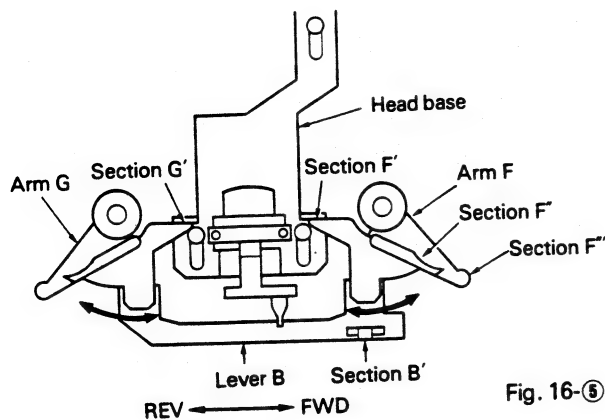
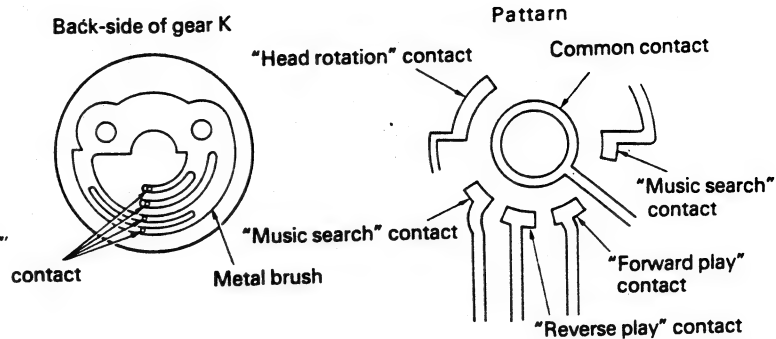
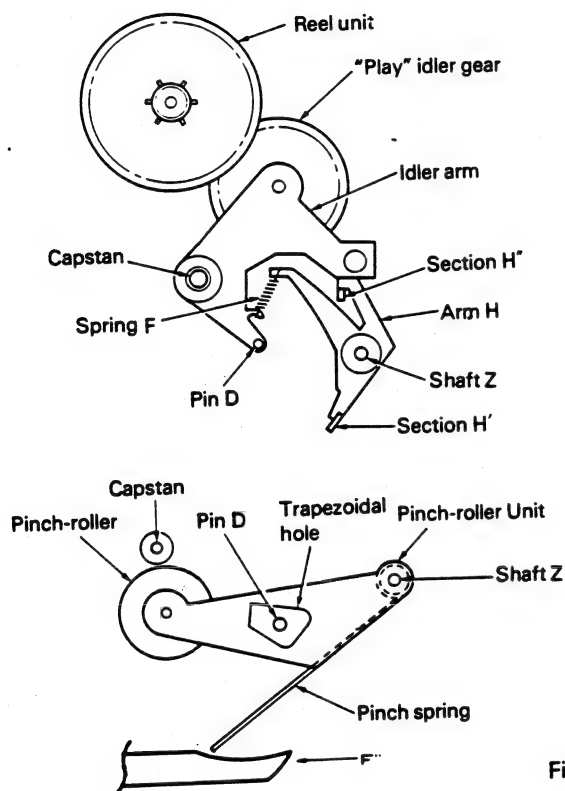

Fig. 16-5
Fig. 16-6
Fig. 17
3. Pin "B" engages with the arm "E" oval opening and rotates arm "E". The arm "E" sector gear is engaged with pin "C" and this turns the head. The head rotation pattern (Fig. 16-6) performs this operation inside a certain angle.
5. After the head base goes beyond the MS pattern (Fig. 16-6) position, the arm "F", "F'" part pushes the pinch roller unit pinch spring and presses the pinch roller down onto the capstan. (Fig. 17)
6. Simultaneously, the arm "F", "F'" unit pushes the arm "H", "H'" part. The "H'" part lock releases when pushed, and the play idler gear comes into contact with the reel unit. Play operation begins because of this. (Fig. 16-5, Fig. 17)